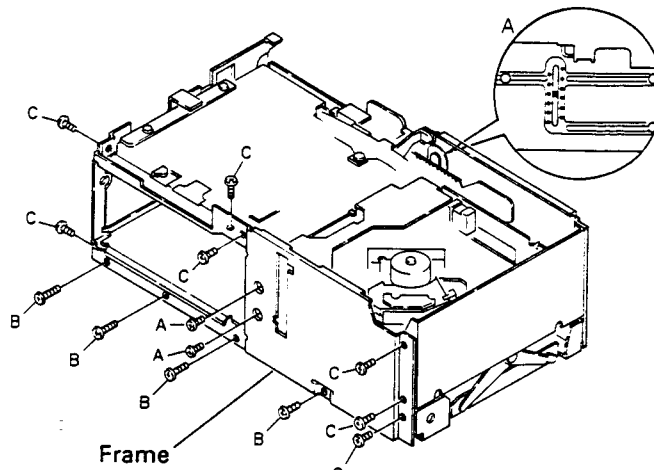

Fig. 18
15. By moving the elevation, adjust the position to the sixth step from the top as shown in section A in the figure. (CX-612) (Fig. 18)
By moving the elevation, adjust the position to the highest step. (CX-613) (Fig. 18)
16. Install the frame with two screws A, four screws B and seven screws C. (Fig. 18)